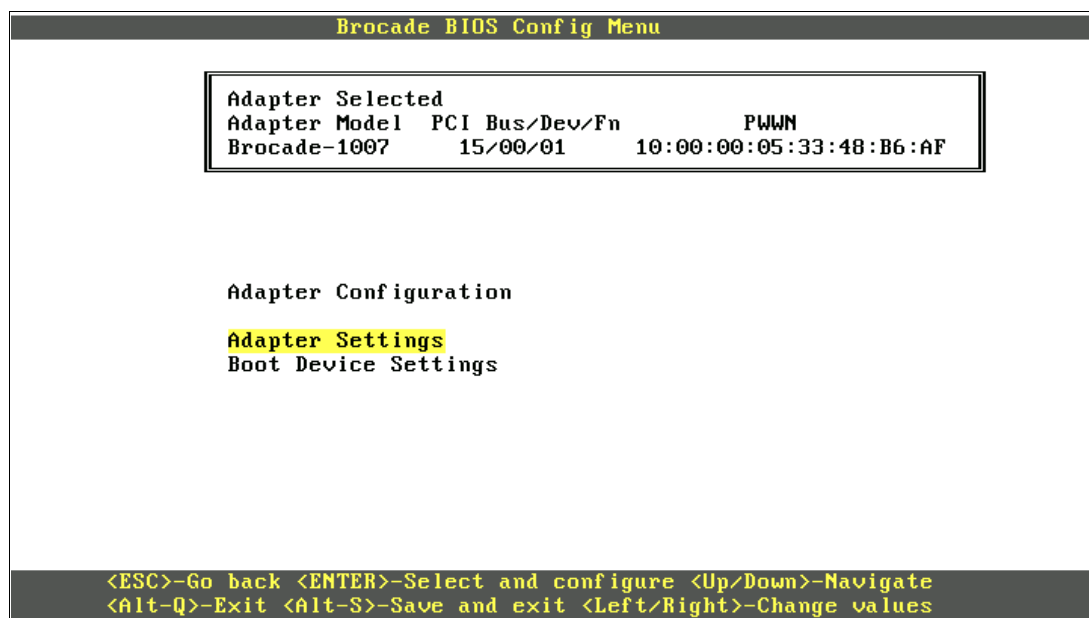

Figure 9-206 Selecting Adapter Settings
11. Select **Adapter Settings** (Figure 9-206).